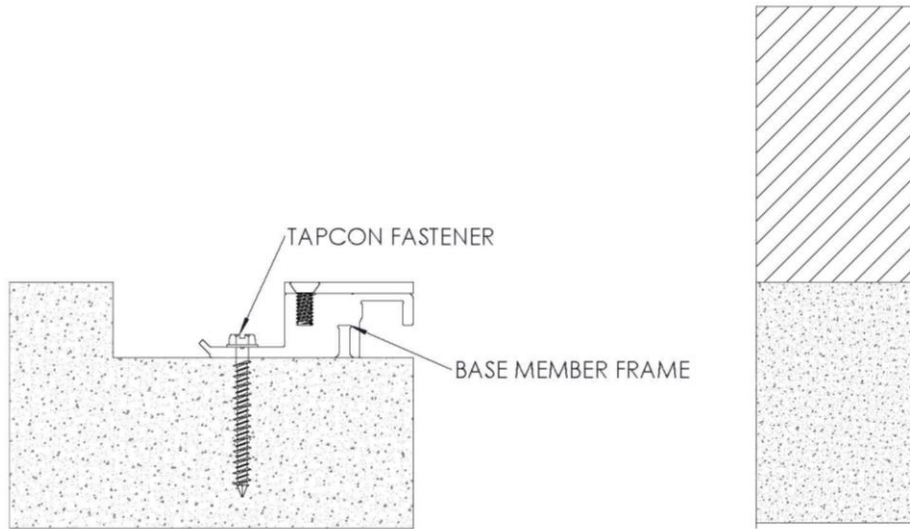

FIGURE 1
1. Position base member frame in blockout per shop drawings. Using the frame as a template, mark and drill $5/32$ " holes for Tapcon fasteners. Install base member frame to the blockout opening with fasteners, making sure not to over tighten. **See Figure 1**